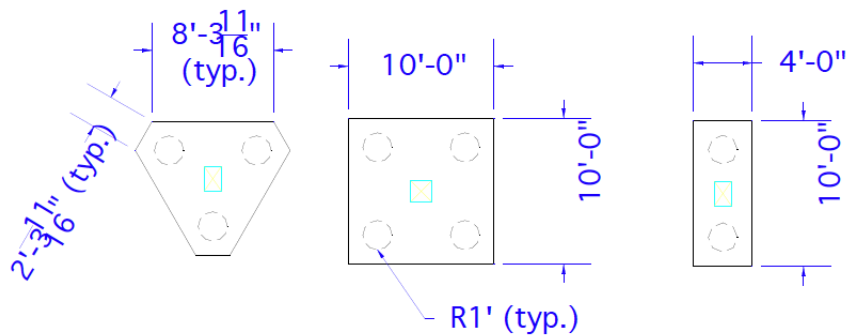
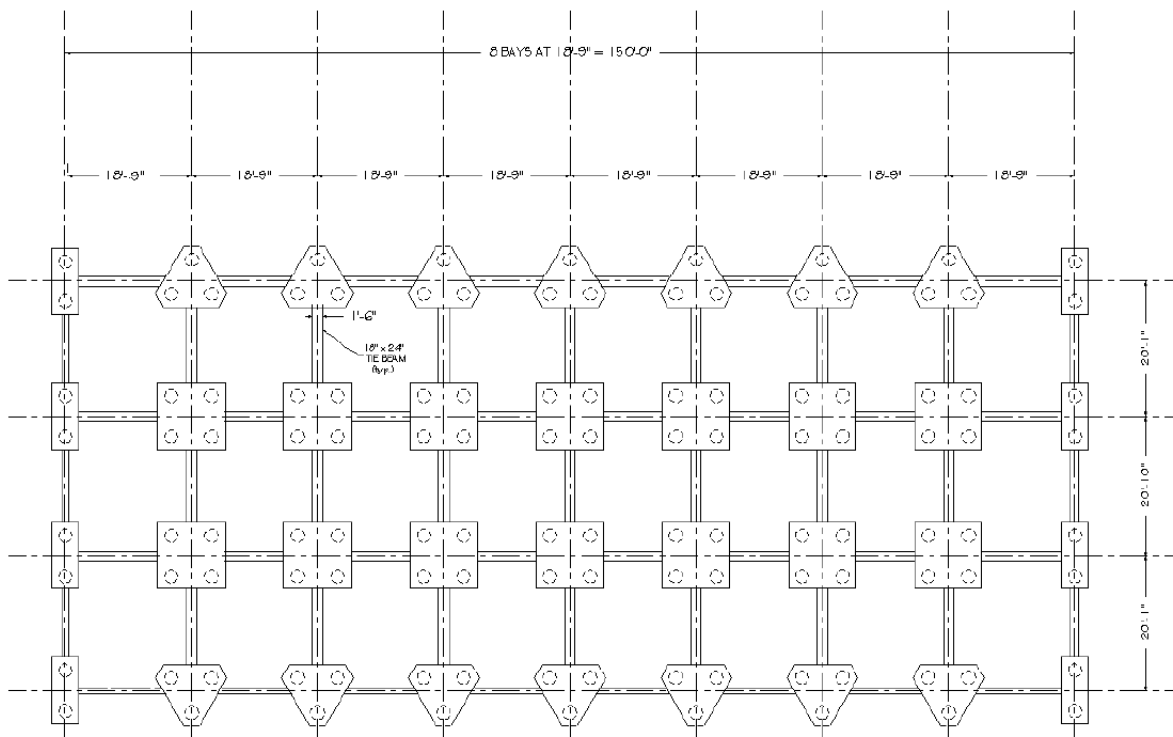

Figure 1: Typical foundation elements: Triangular, square and rectangular pile groups and pile caps
Figure 2: Foundation Plan
Download the files *foundationElements.dwg* and *pileGroup.dwg* from the class website. These files contain drawings of the foundation elements shown Figure 1 and you will use these drawings to create blocks for each of the foundation elements shown in Figure 2. *pileGroup.dwg* contains a drawing of the two-pile foundation element shown in Figure 2. Make sure that all of the objects are drawn on the 0 layer and that all of the objects have color, linetype, linewidth set to BYBLOCK.
- Open the file *foundationElements.dwg*. This file contains drawings of the other two foundation elements shown in Figure 2. Add the two-pile foundation to the drawing using the insert block command. This time you will need to browse to find the file *twoPileGroup.dwg*. Use the explode command to explode the block and change the properties of the piles and pile cap so that each is assigned to the correct layer. Create a new block for the two-pile foundation as well as two new blocks for the other two foundation elements in the file. Save the revised file.
- Open a new drawing in which you will draw the foundation plan shown in Figure 2. Name the drawing *lastname_lab_2_foundationPlan.dwg*. Insert the block library using the insert command. To do this you will need to browse to find the *foundationElements.dwg* file that contains the blocks, Open the file for use and click the Okay button to indicate that you want to insert the foundation elements. You will see all of the foundation elements in the drawing window and will need only to click the mouse to insert all of the elements. If you click on the drawing window, all of the foundation elements will be inserted. Instead of inserting all of them, type Esc. Now, all of the foundation elements blocks should be available for you to use in the new drawing. To confirm this, use the insert command and verify that all of the block names appear in the box following Name in the insert window.
- Use the foundation elements to create the foundation plan drawing shown in Figure 2 Before you start your drawing, think about how you can use the array, multi-copy, offset, and mirror commands to draw the foundation layout using only a few commands.